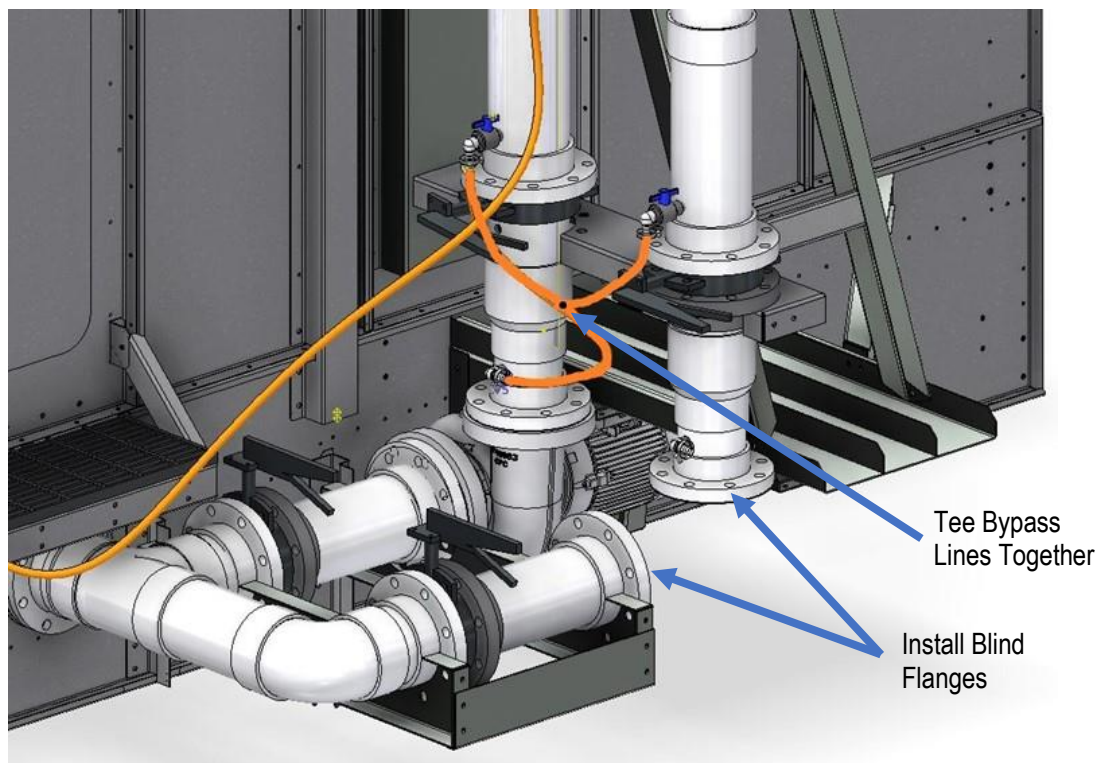

Figure 17. Long Term Pump Removal
6. If the pump will be removed for an extended period install blind flanges on the suction and discharge side of the removed pump. Tee the bypass line of the removed pump into the adjacent bypass line. Open the bypass valve for the removed pump. See **Figure 17**.